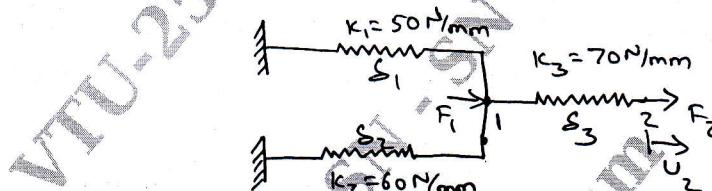

Fig.Q1(b)
b. For the spring system shown in Fig.Q1(b). Determine the nodal displacements. Take $F_1 = 75\text{N}$, $F_2 = 100\text{N}$.